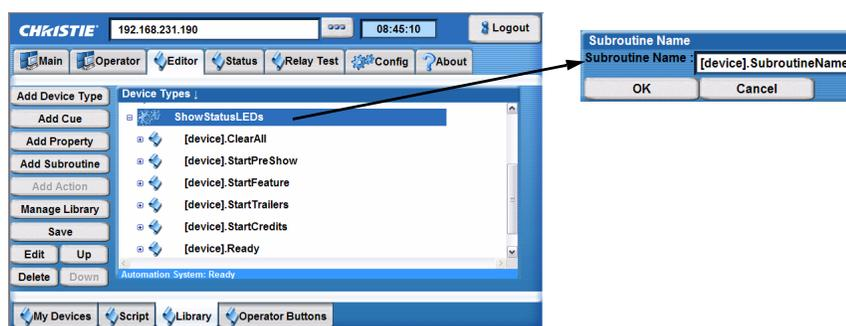

Figure 3-24 Adding a Subroutine to a Library
4. Type the subroutine name in the **Subroutine Name** window (**Figure 3-24**).